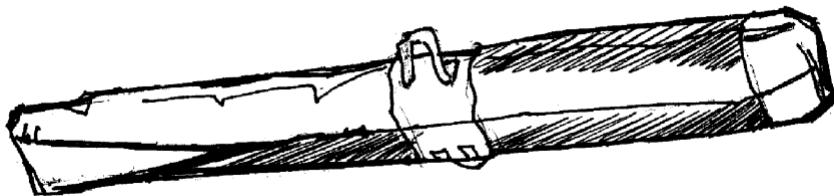

Fig. 48
4.2.4. Place the consoles into the bag. Zip the zipper. Tuck the excess of the bag into the package (Fig. 48).